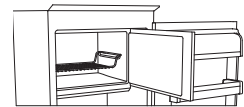
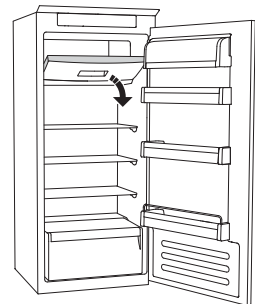

Figure 1
Figure 2
- arrange the food on the grille, if present (figure 1), or directly on the bottom of the compartment (figure 2)
- put the food in the middle of the **\* \*\* \*** compartment without it coming into contact with food that is already frozen, keeping a distance of about 20 mm (figure 1 and 2).
The STOP FROST SYSTEM (available depending on the model) facilitates the defrost procedure for the freezer compartment. The STOP FROST accessory (figure 1) is designed to collect some of the frost that forms in the freezer compartment and it is easy to remove and clean, therefore reducing the time needed to defrost the inside of the freezer compartment.
- Open the freezer compartment door and remove the upper drawer (figure 2).